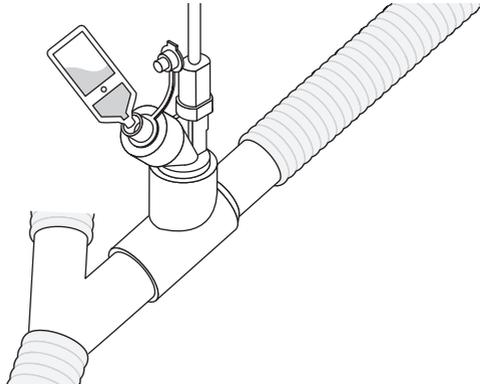

Figure 11. Filling the nebulizer with a pre-filled ampoule
2. Use a pre-filled ampoule or syringe to add medication into the filler port of the nebulizer (Figure 11).